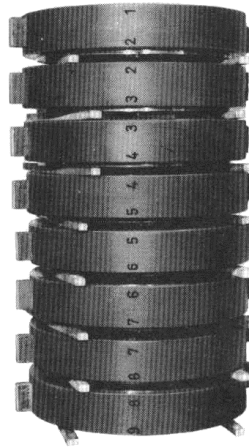

Fig. 65 - Stacking the stage casings on top of one another
8. Stack the stage casings on top of one another in correct order. The contact faces should be protected by wooden strips or thick cardboard during stacking, to avoid any damage (see Fig. 65).